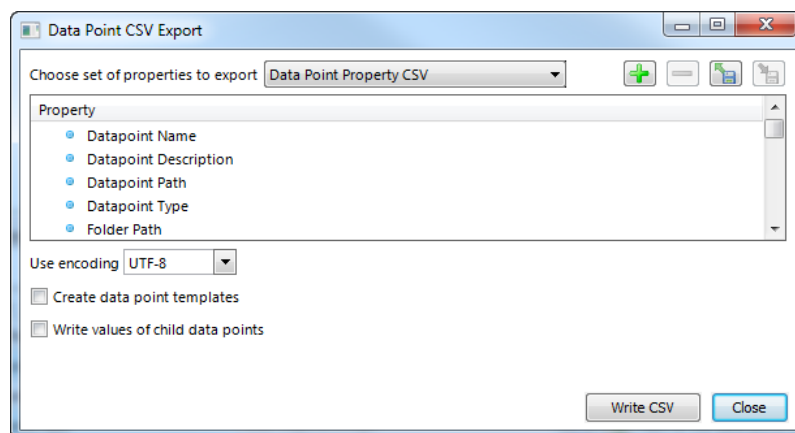

Figure 65: Data point CSV export dialog.
3. The Data Point CSV Export dialog opens as shown in Figure 65.